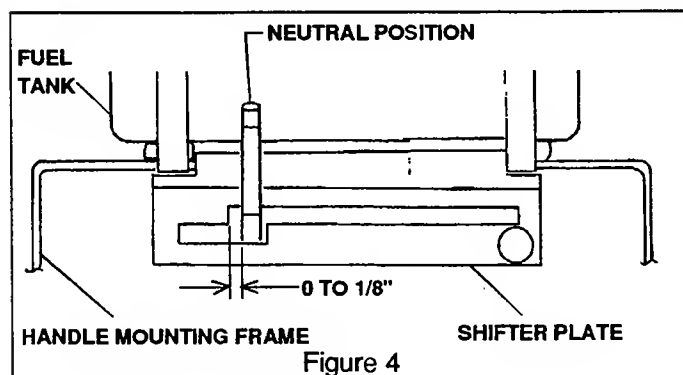

Figure 4
7. The shift lever should be adjusted so that the shift lever assembly is 0 to 1/8" away from the stop when the transmission is in neutral (see figure 4). Tighten nuts securely.
3. The shift lever is adjustable, and can be moved right to left allowing proper positioning for neutral (See figure 4).